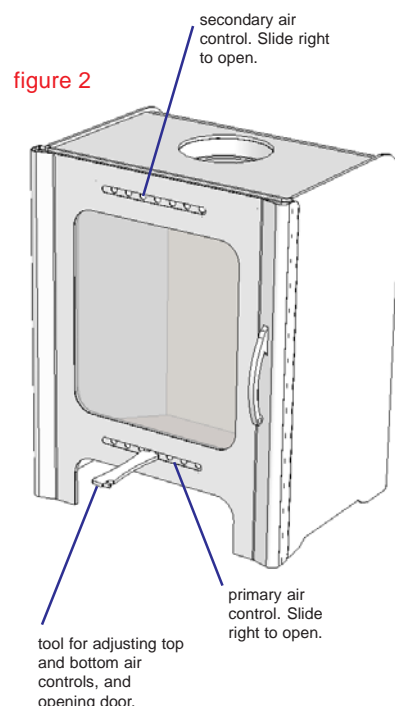

figure 2
**Step 1** Open the top air control and bottom air control fully. **figure 2**